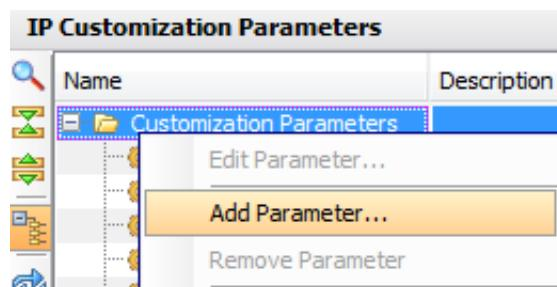

Figure 8-42: Add Parameter Option
1. Right-click the IP Customization Parameters window and select **Add Parameter** as shown in Figure 8-42, page 109.